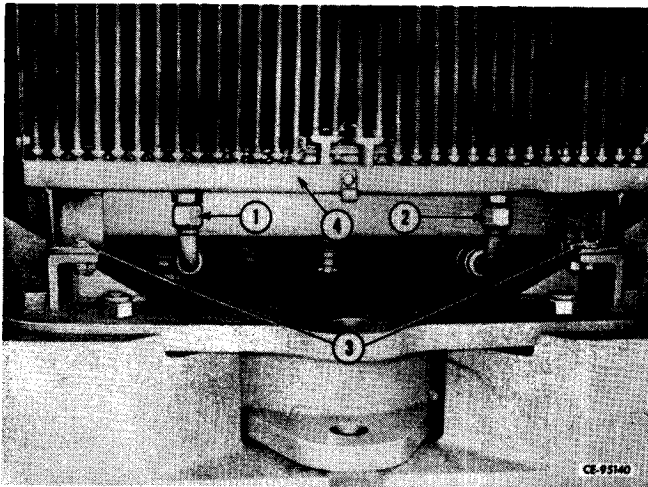

Figure 2-9
Disconnect transmission oil cooler lines (1, 2, Fig. 2-9) from the bottom of oil cooler (4). Insert plastic plugs into both the oil cooler and disconnected lines (1, 2), to keep fluid from dripping. Remove cap screws and nuts securing the top of the oil cooler to the radiator. Install an overhead hoist and remove cap screws and nuts (3). Lower oil cooler to floor.